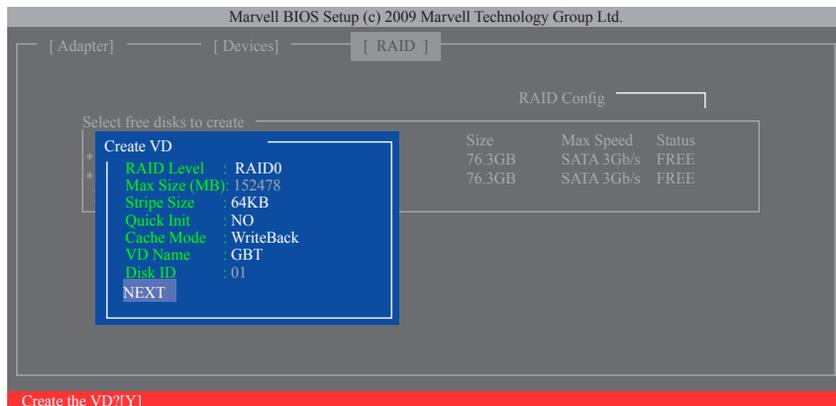

Figure 8
6. **NEXT**: After completing the settings above, move to **NEXT** and press <Enter> to begin creating the array. When prompted to confirm, press <Y> to confirm or <N> to cancel (Figure 8).